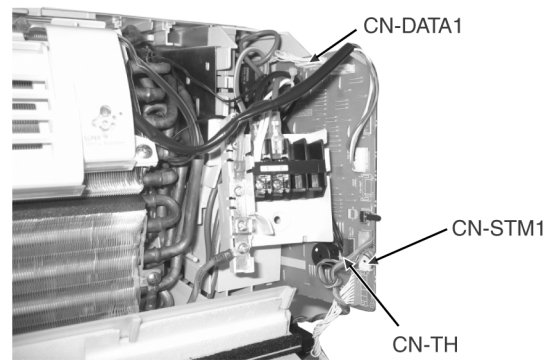

Fig. 5
- Release the CN-DATA1 connector. (Fig. 5)
- Release the CN-STM1 connector. (Fig. 5)
- Release the CN-TH connector. (Fig. 5)